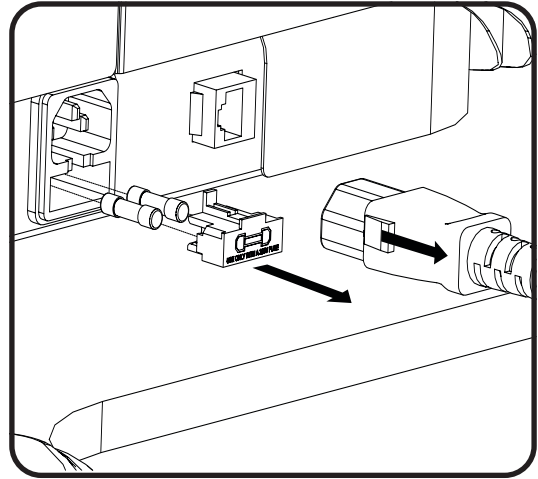

Figure 1
1. See Figure 1. Pull back on the red tabs of the power cord at the base of the chair to remove the power cord.
4. Insert new fuse(s) into the fuse drawer with same size fuse (5mm x 20mm 4 Amp 250V Time-Delay Glass Tube type) removed in step 3 (See Figure 1).